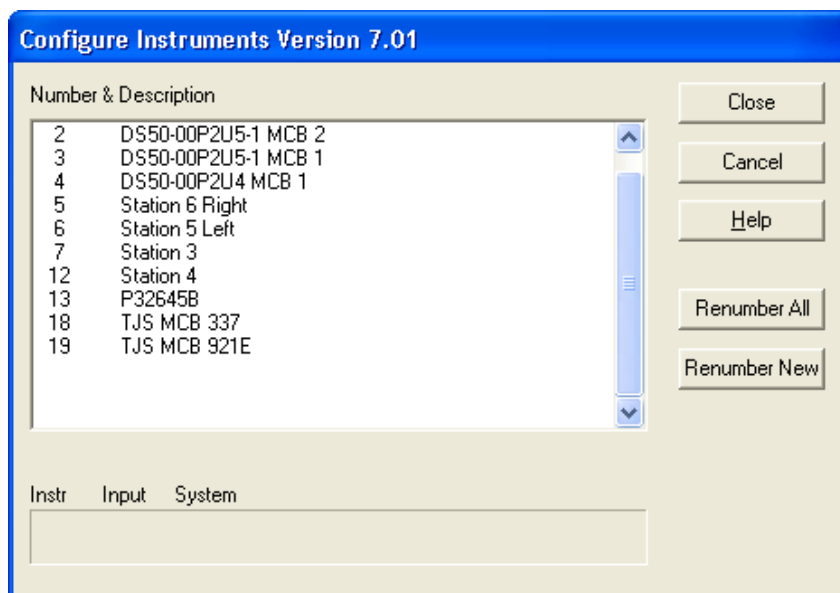

Figure 4. MCB Numbering and Descriptions.
3. From the Windows Start menu, click on **MAESTRO 32** and **MCB Configuration**. The MCB Configuration program will locate all of the powered-on ORTEC MCBs on the local PC and the network, and display the *Master Instrument List* of instruments found (Fig. 4).